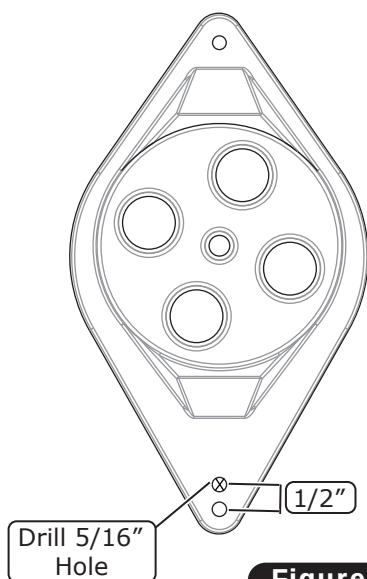

Figure 1
1. From the bottom hole, measure and mark a distance gap of approximately 1/2" (See Figure 1, below). Drill a new mounting hole using a 5/16" drill bit (See Figure 1, below). **NOTE: This will allow proper hardware alignment due to slight deviations between Chevrolet and Pontiac model vehicles.**
2. Install (3) large grommets, a 1 1/4" O.D. grommet and a 7/8" grommet into the fresh air cap (See Photo 1, below).